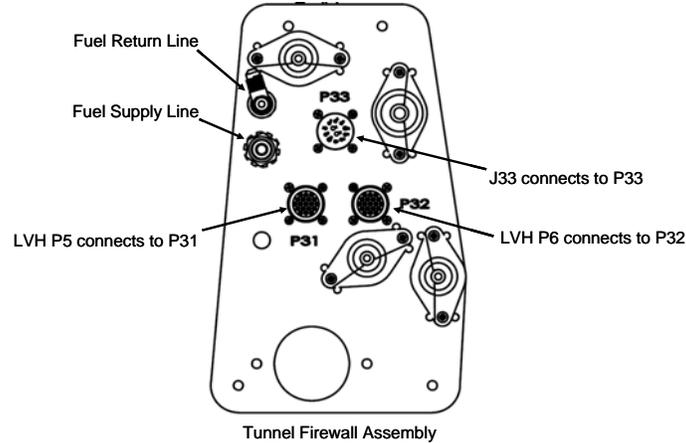

Figure 71-6 Tunnel Firewall Assembly Electrical Disconnections
19. Disconnect P5 From P32 on the tunnel firewall assembly as shown in Figure 71-6.
20. Disconnect P6 From P32 on the tunnel firewall assembly as shown in Figure 71-6.
21. Disconnect J33 from P33 on the tunnel firewall assembly as shown in Figure 71-6.